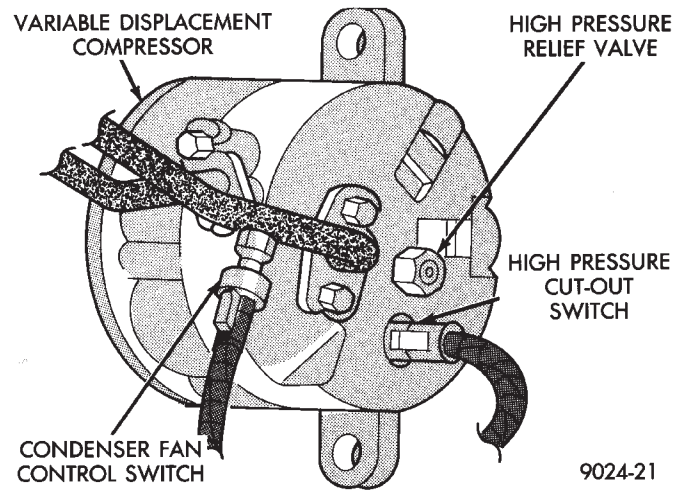

Fig. 16 High Pressure Cut-out Switch
- (1) Discharge the refrigerant system.
- (2) Disconnect wire connector from the high pressure cut-out switch (Fig. 16).